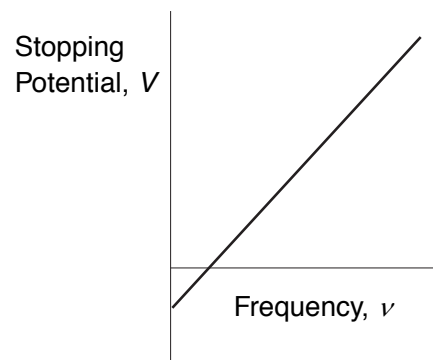

Figure 1: Stopping Potential, V versus Frequency, ν
Einstein's theory predicts that if the frequency of the incident light is varied, and the 'stopping' potential, V , is plotted as a function of frequency, the slope of the line is h/e (see Figure 1).
- The slope of a plot of stopping potential versus frequency is the value of the ratio, h/e . See Figure 1.